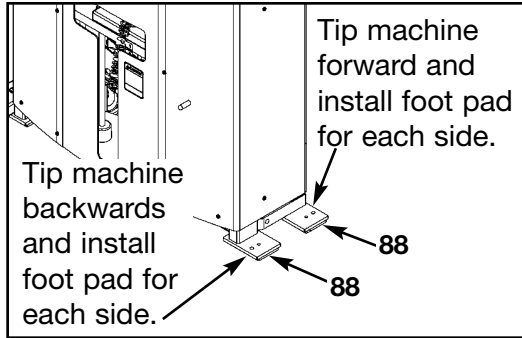

Figure 3
**3. Installing foot pads onto frame** (see steps 3A - 3E and Figure 3).
- B.** Carefully tip FT 360 forward (do not exceed 30 degrees) or just enough to install the foot pads. See Figure 3 on next page.